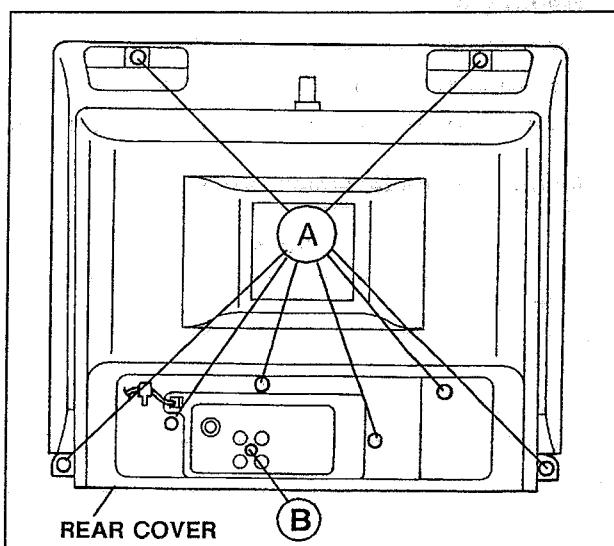

Fig. 1
2. Remove the eight screws marked **(A)** as shown in Fig. 1.
2. Remove the one screw marked **(B)** as shown in Fig.1.